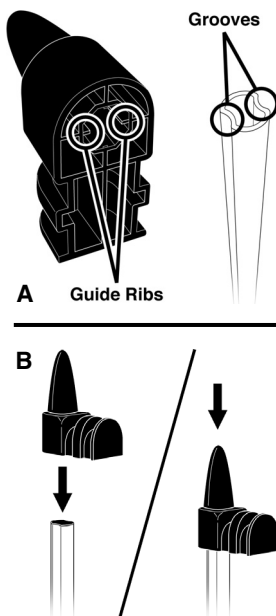

FIGURE 4
1. Align Pole Top with end of SECTION 1. Make sure that guide ribs inside Pole Top align with grooves on sides of SECTION 1 (FIGURE 4-A).
2. Slide Pole Top onto top of SECTION 1. Press firmly down on Pole Top to seat it securely in place (FIGURE 4-B).